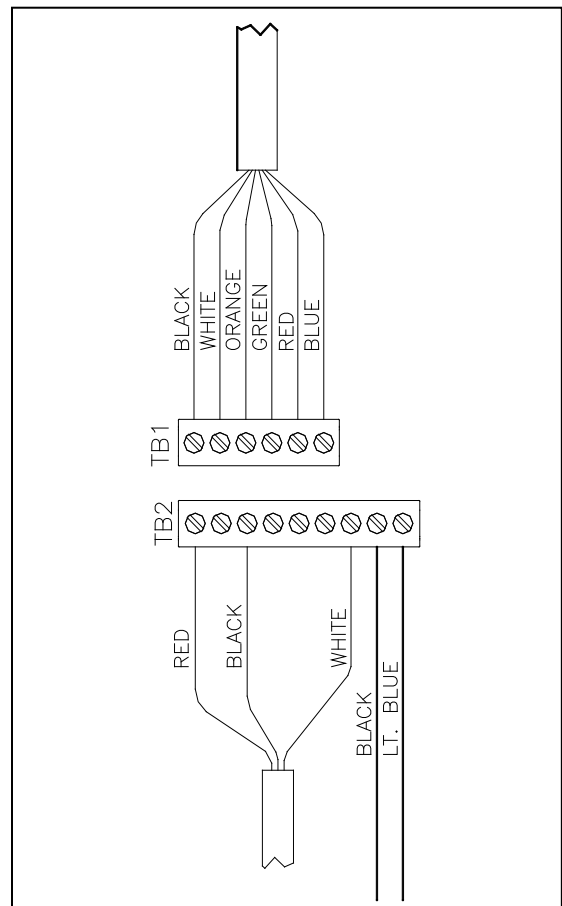

Figure 3-13. TM4500 Wiring Configuration
10. Reconnect all wires as they were connected to the previous drive (Figure 3-13).